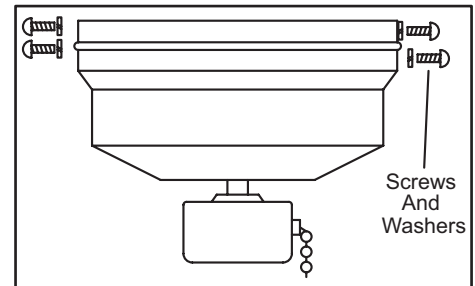

Figure 8
2. Carefully lift the motor housing onto the mounting plate, properly align the holes and tighten the motor housing with the four screws and washers supplied (Figure 8).